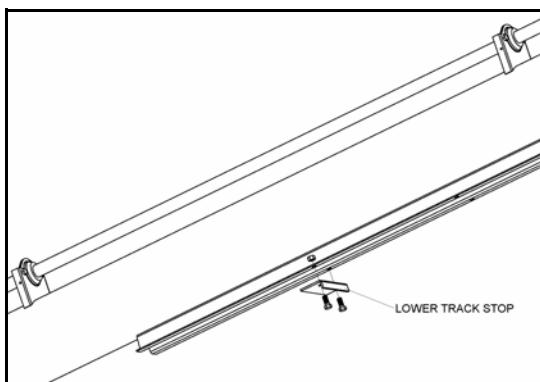

Figure 3.6 Lower Track Stop
- Attach the lower angle-iron trackstop with 7/16" x 1-1/4" bolts and locknuts as shown in Figure 3.6. Ensure trackstop is installed in correct position by referring to Table 3.2. Tighten securely.